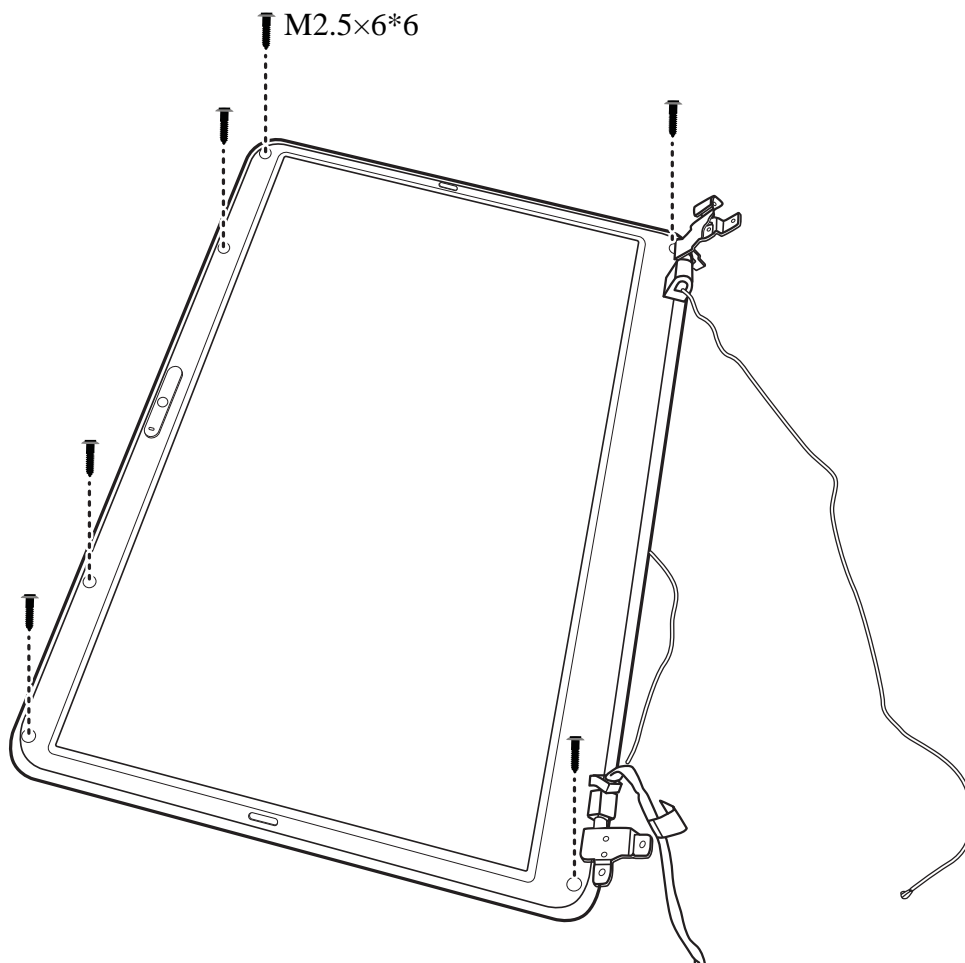

Figure 4.38 Removing the LCD Bezel
Remove the LCD bezel according to the following procedures and Figures 4.38, 4.39 and 4.40.
2. Remove the six M2.5x6 screws as shown in Figure 4.38.